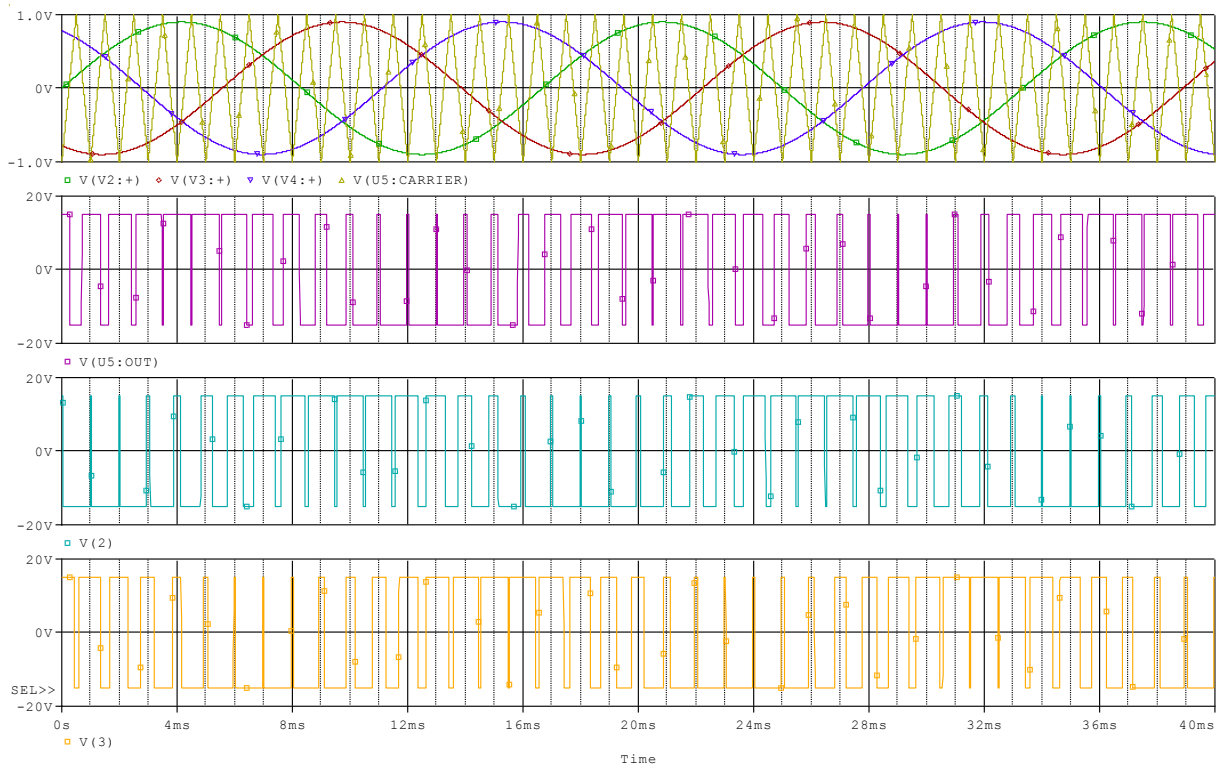
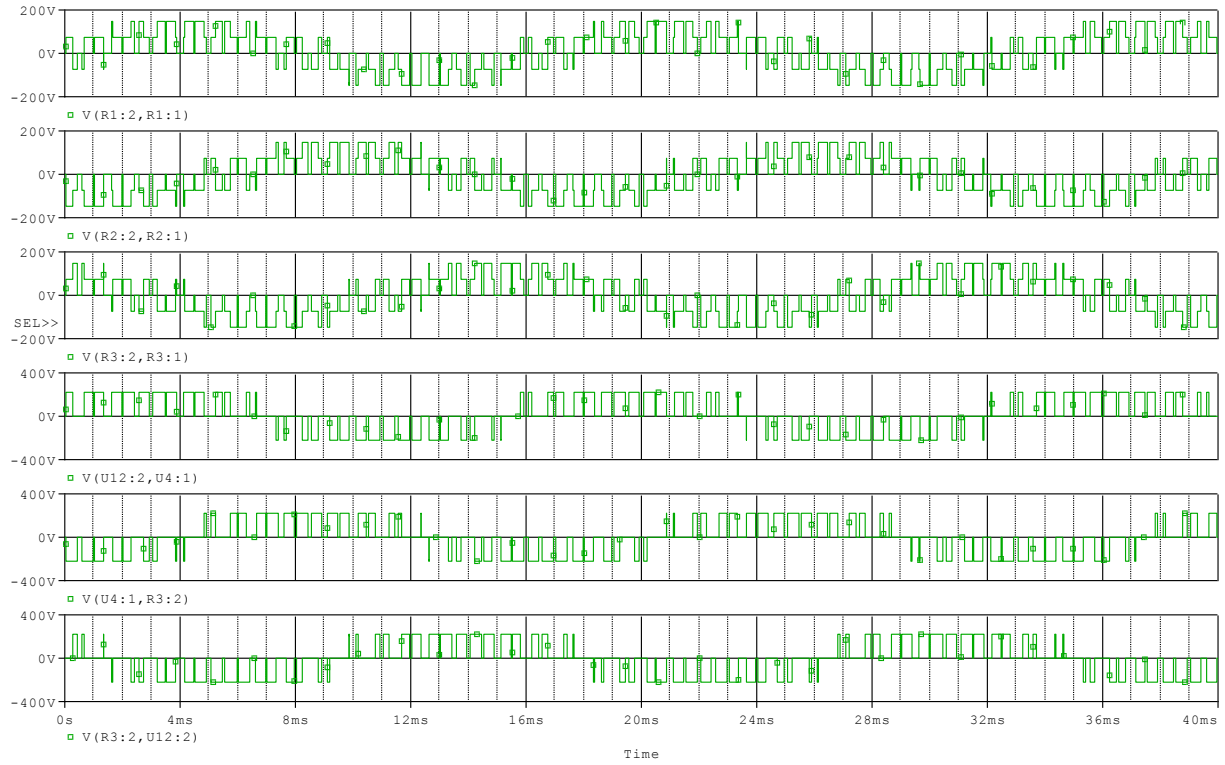
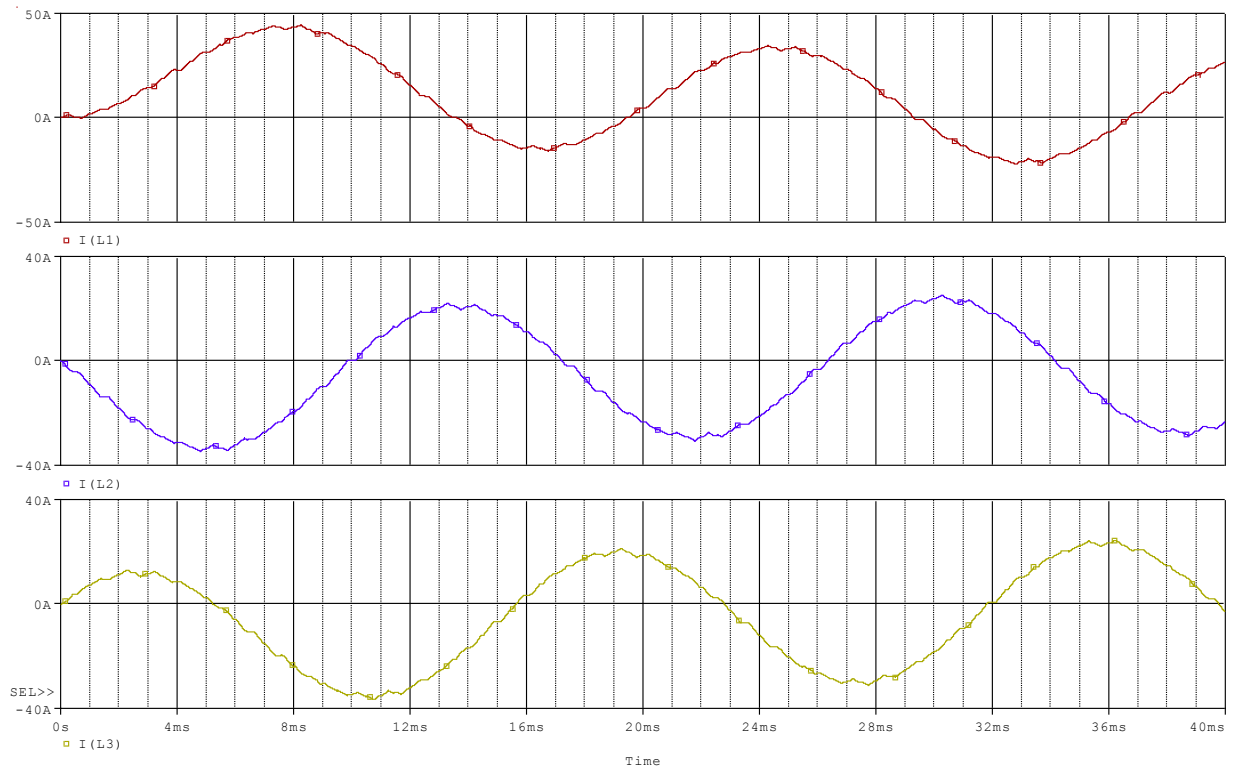

Figure 15
Figure 16
Figure 17
4. Plot reference voltages, carrier wave, gate signals, phase-to-neutral and line-to-line load voltages, and line current. Reproduce Figure 15, Figure 16, and Figure 17.